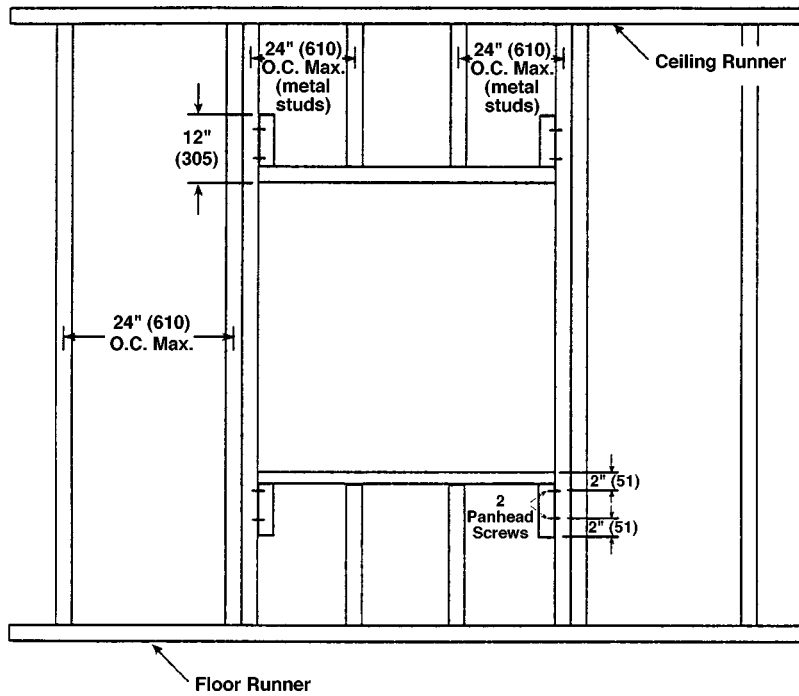

Figure 1
1. Frame wall openings per figure 1 or 2 as shown.